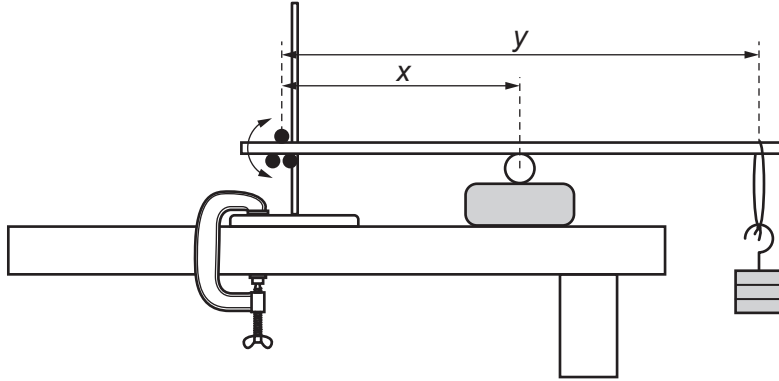

Fig. 3.3
- Using the loop of string attach the mass hanger and masses near the end of the wooden strip as shown in Fig. 3.3.